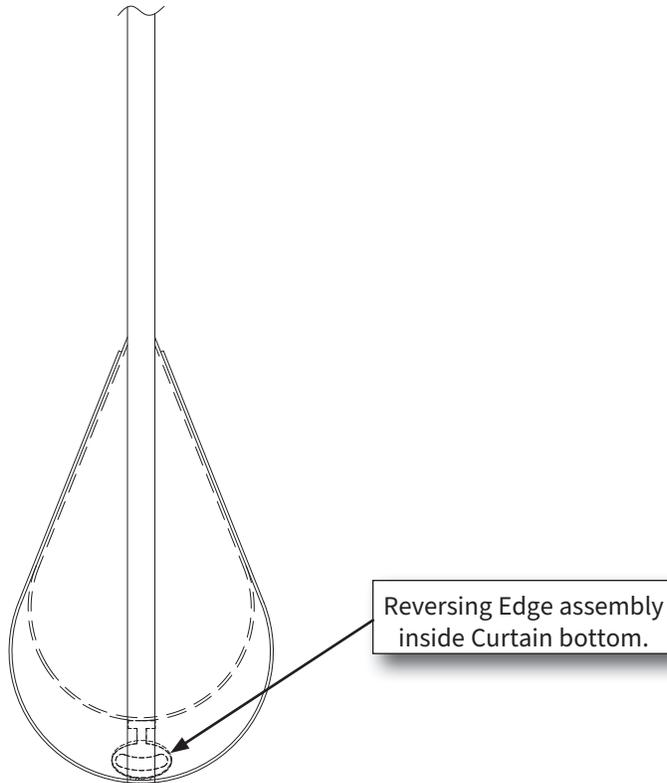

Figure 31: Testing the Reversing Edge
- 1 The reversing edge is embedded in the bottom of the curtain. Test the reversing edge while the door is closing by blocking the bottom of the curtain near the center of the door with your hand to assure the reversing edge is functioning properly. (Figure 31). It should reverse on contact.